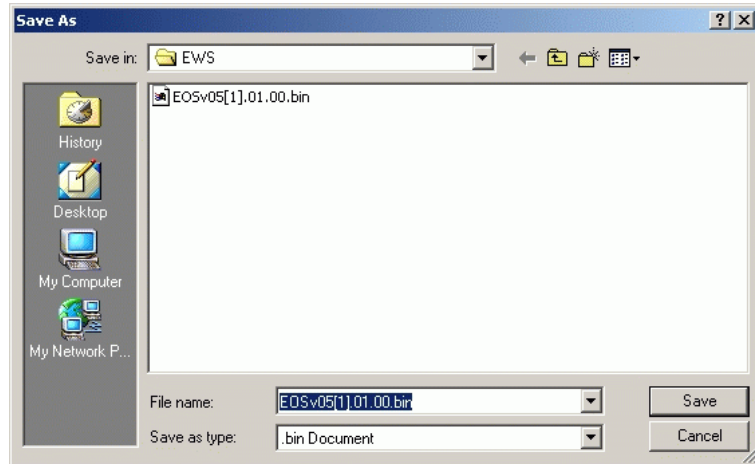

Figure 4-60 Save As Dialog Box
- i. Select the *Save this file to disk* radio button and click *OK*. The *Save As* dialog box appears (Figure 4-60).